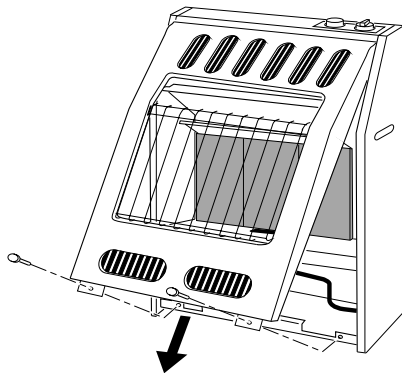

Figure 7 - Removing Front Panel of Heater (Model FAS-3B Shown)
Remove clip and bulb from shipping location. Place clip and bulb into operation location (see Figure 7)
3. Pull bottom of front panel forward, then down (see Figure 7).